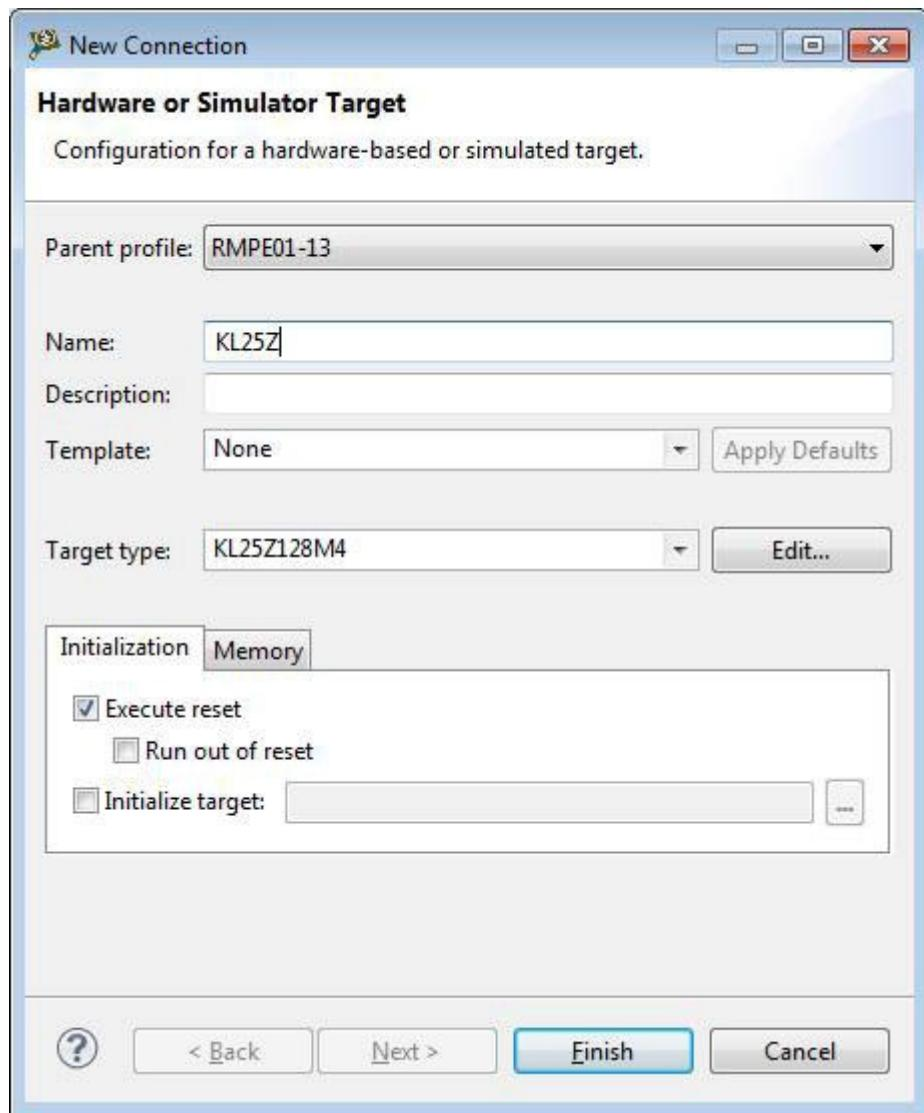

Figure A-5. Selecting CodeWarrior Target type
7. Click the Edit button on the **Target type** field. See Figure A-5.
8. Check the “**Execute reset**” check box, (see Figure A-5) then enter a value in the name field and click **Finish**.